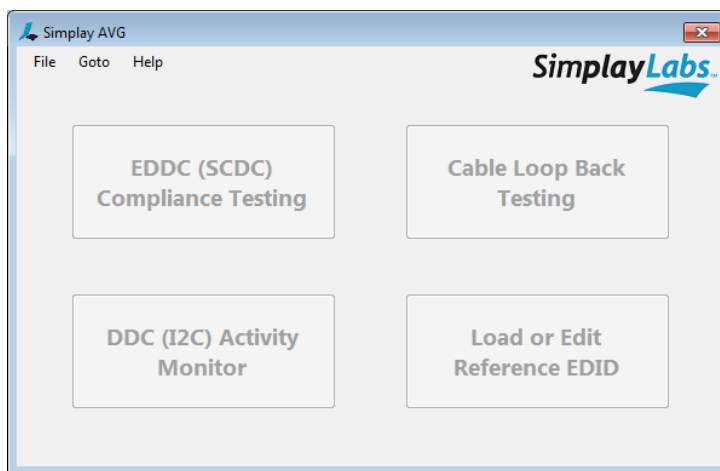
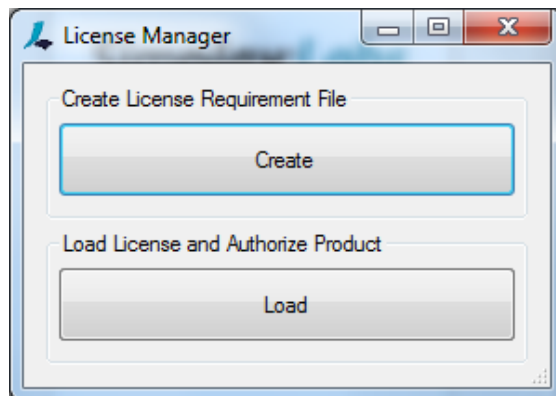

Figure 3.8. AVG Software Main Window on Test Computer
Figure 3.11. License Manager Dialog
1. Make sure the SL-881 is powered on and is connected to your test computer. Open the SL-881 Application shortcut from your test computer desktop (Figure 3.7). You get the main window of the AVG software (Figure 3.8).
6. From the AVG software main window (Figure 3.8), choose Help → License. The License Manager dialog appears (Figure 3.11).
3. Go back to the AVG software main window (Figure 3.8). Select File → Open Device → Connect Device.
8. The License Manager dialog appears (Figure 3.11). Click Load to load the license file (*.lic).